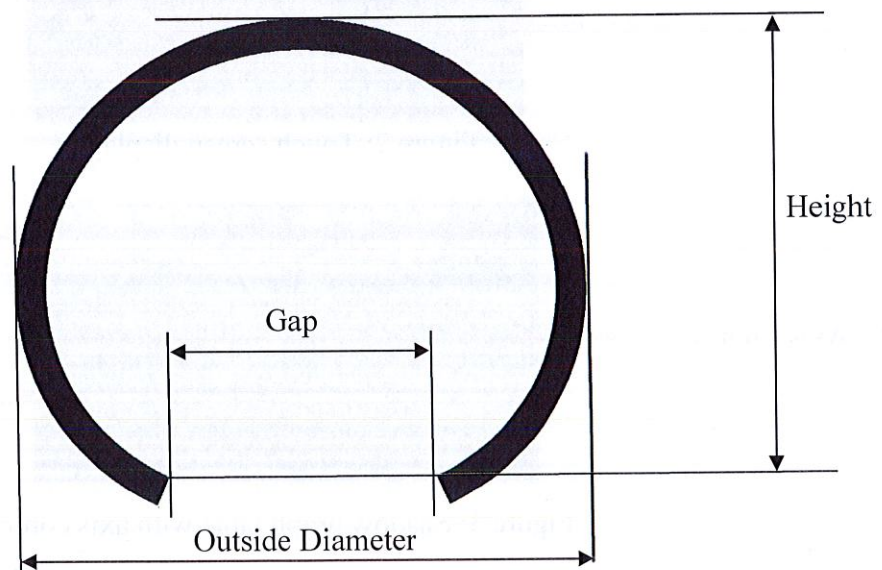

Figure 6. Dimensions to be checked.
6.2.6. Gap. Use the axis lines and start from the inside of the gap on one side. Zero the axis on the touch screen. Wind the axis over until the axis line meets the inside of the gap on the other side, as shown in figure 6. Type the measured value into MeasurLink.